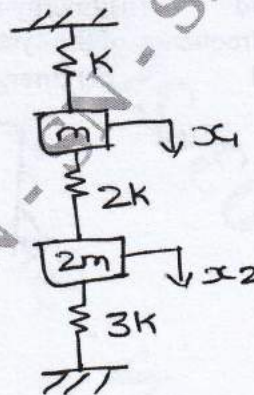

Fig.Q7
- 7 Fig.Q7 shows a spring mass system. Determine